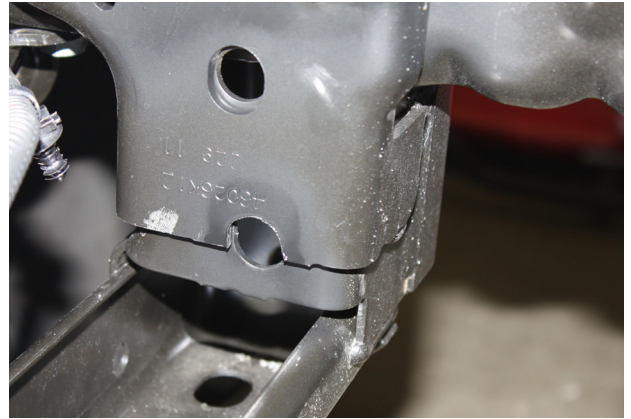

Figure 9
8. Use a grinder or file to enlarge the slot in the factory canister bracket to match the frame hole behind it, about $\frac{5}{8}$ " diameter. Figure 8. Touch up raw edge with paint to prevent rust. Figure 9.